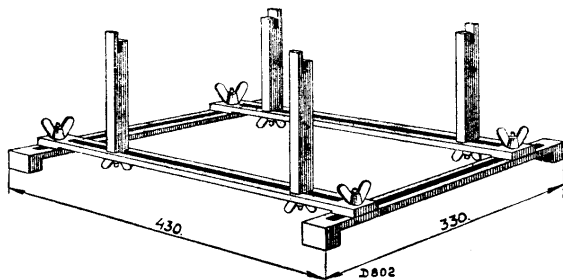

Fig. 4.
2. It is advisable to use a support when the chassis is repaired and attention is drawn to the universal type shown in Fig. 4 (Code No. 09.991.000).